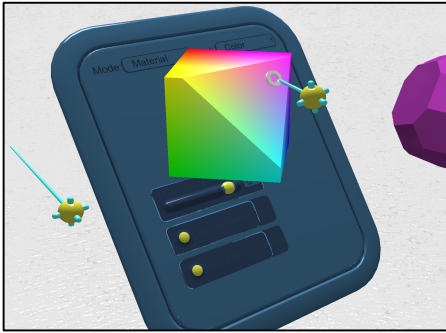

Figure 2: Floating tool panel with color cube
over the user's non-dominant hand (Figure 2). With just a few buttons on each controller and THI/MakeVR's virtual panel, the user accesses functionality that requires deep menus and dialog boxes in other programs.
- Materials: Manually set material properties via texture browsers and a 3D color cube (Figure 2). Automatically impart material properties during Boolean cuts.